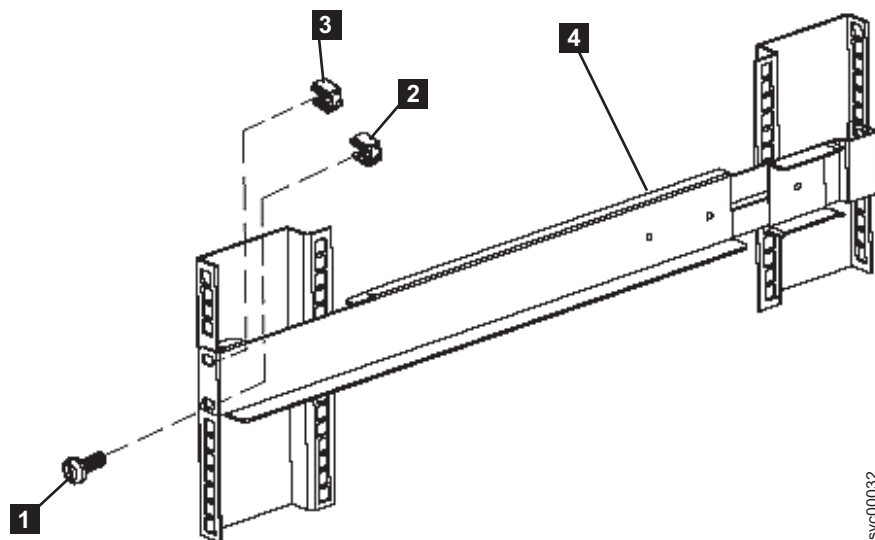

Figure 219. Securing the front rail on the 2145 UPS-1U
8. Attach only the bottom hole of the rail to the front of the rack with one M6 × 10 screw and one clip nut (**1** in Figure 219).